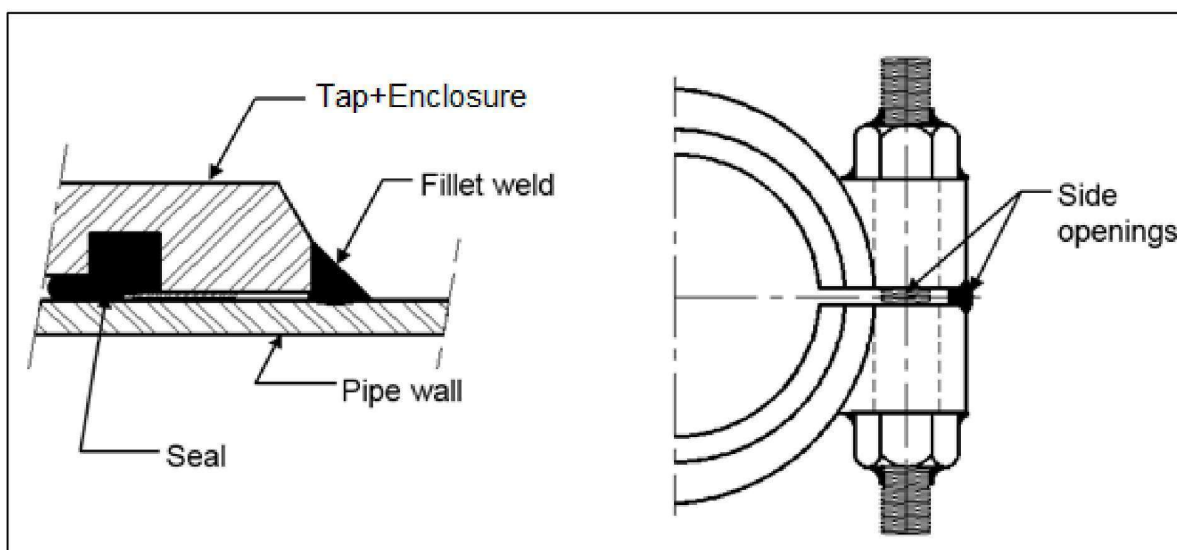

Figure 9
7. Torque the studs uniformly as indicated by the corresponding value per stud size from the **PLIDCO Torque Chart** located on page 14 of these instructions. The best results are obtained by maintaining an equal gap all around the side bars while tightening the studs. Ensure there is full thread engagement by having a minimum of 1/4 inch (6.4 mm) of stud extending beyond the nut. The sequence for torquing the studs should follow the pattern as shown in Figure 9, and should be executed repeatedly as follows:
1. Fillet weld ends to pipe. (See Figure 9)